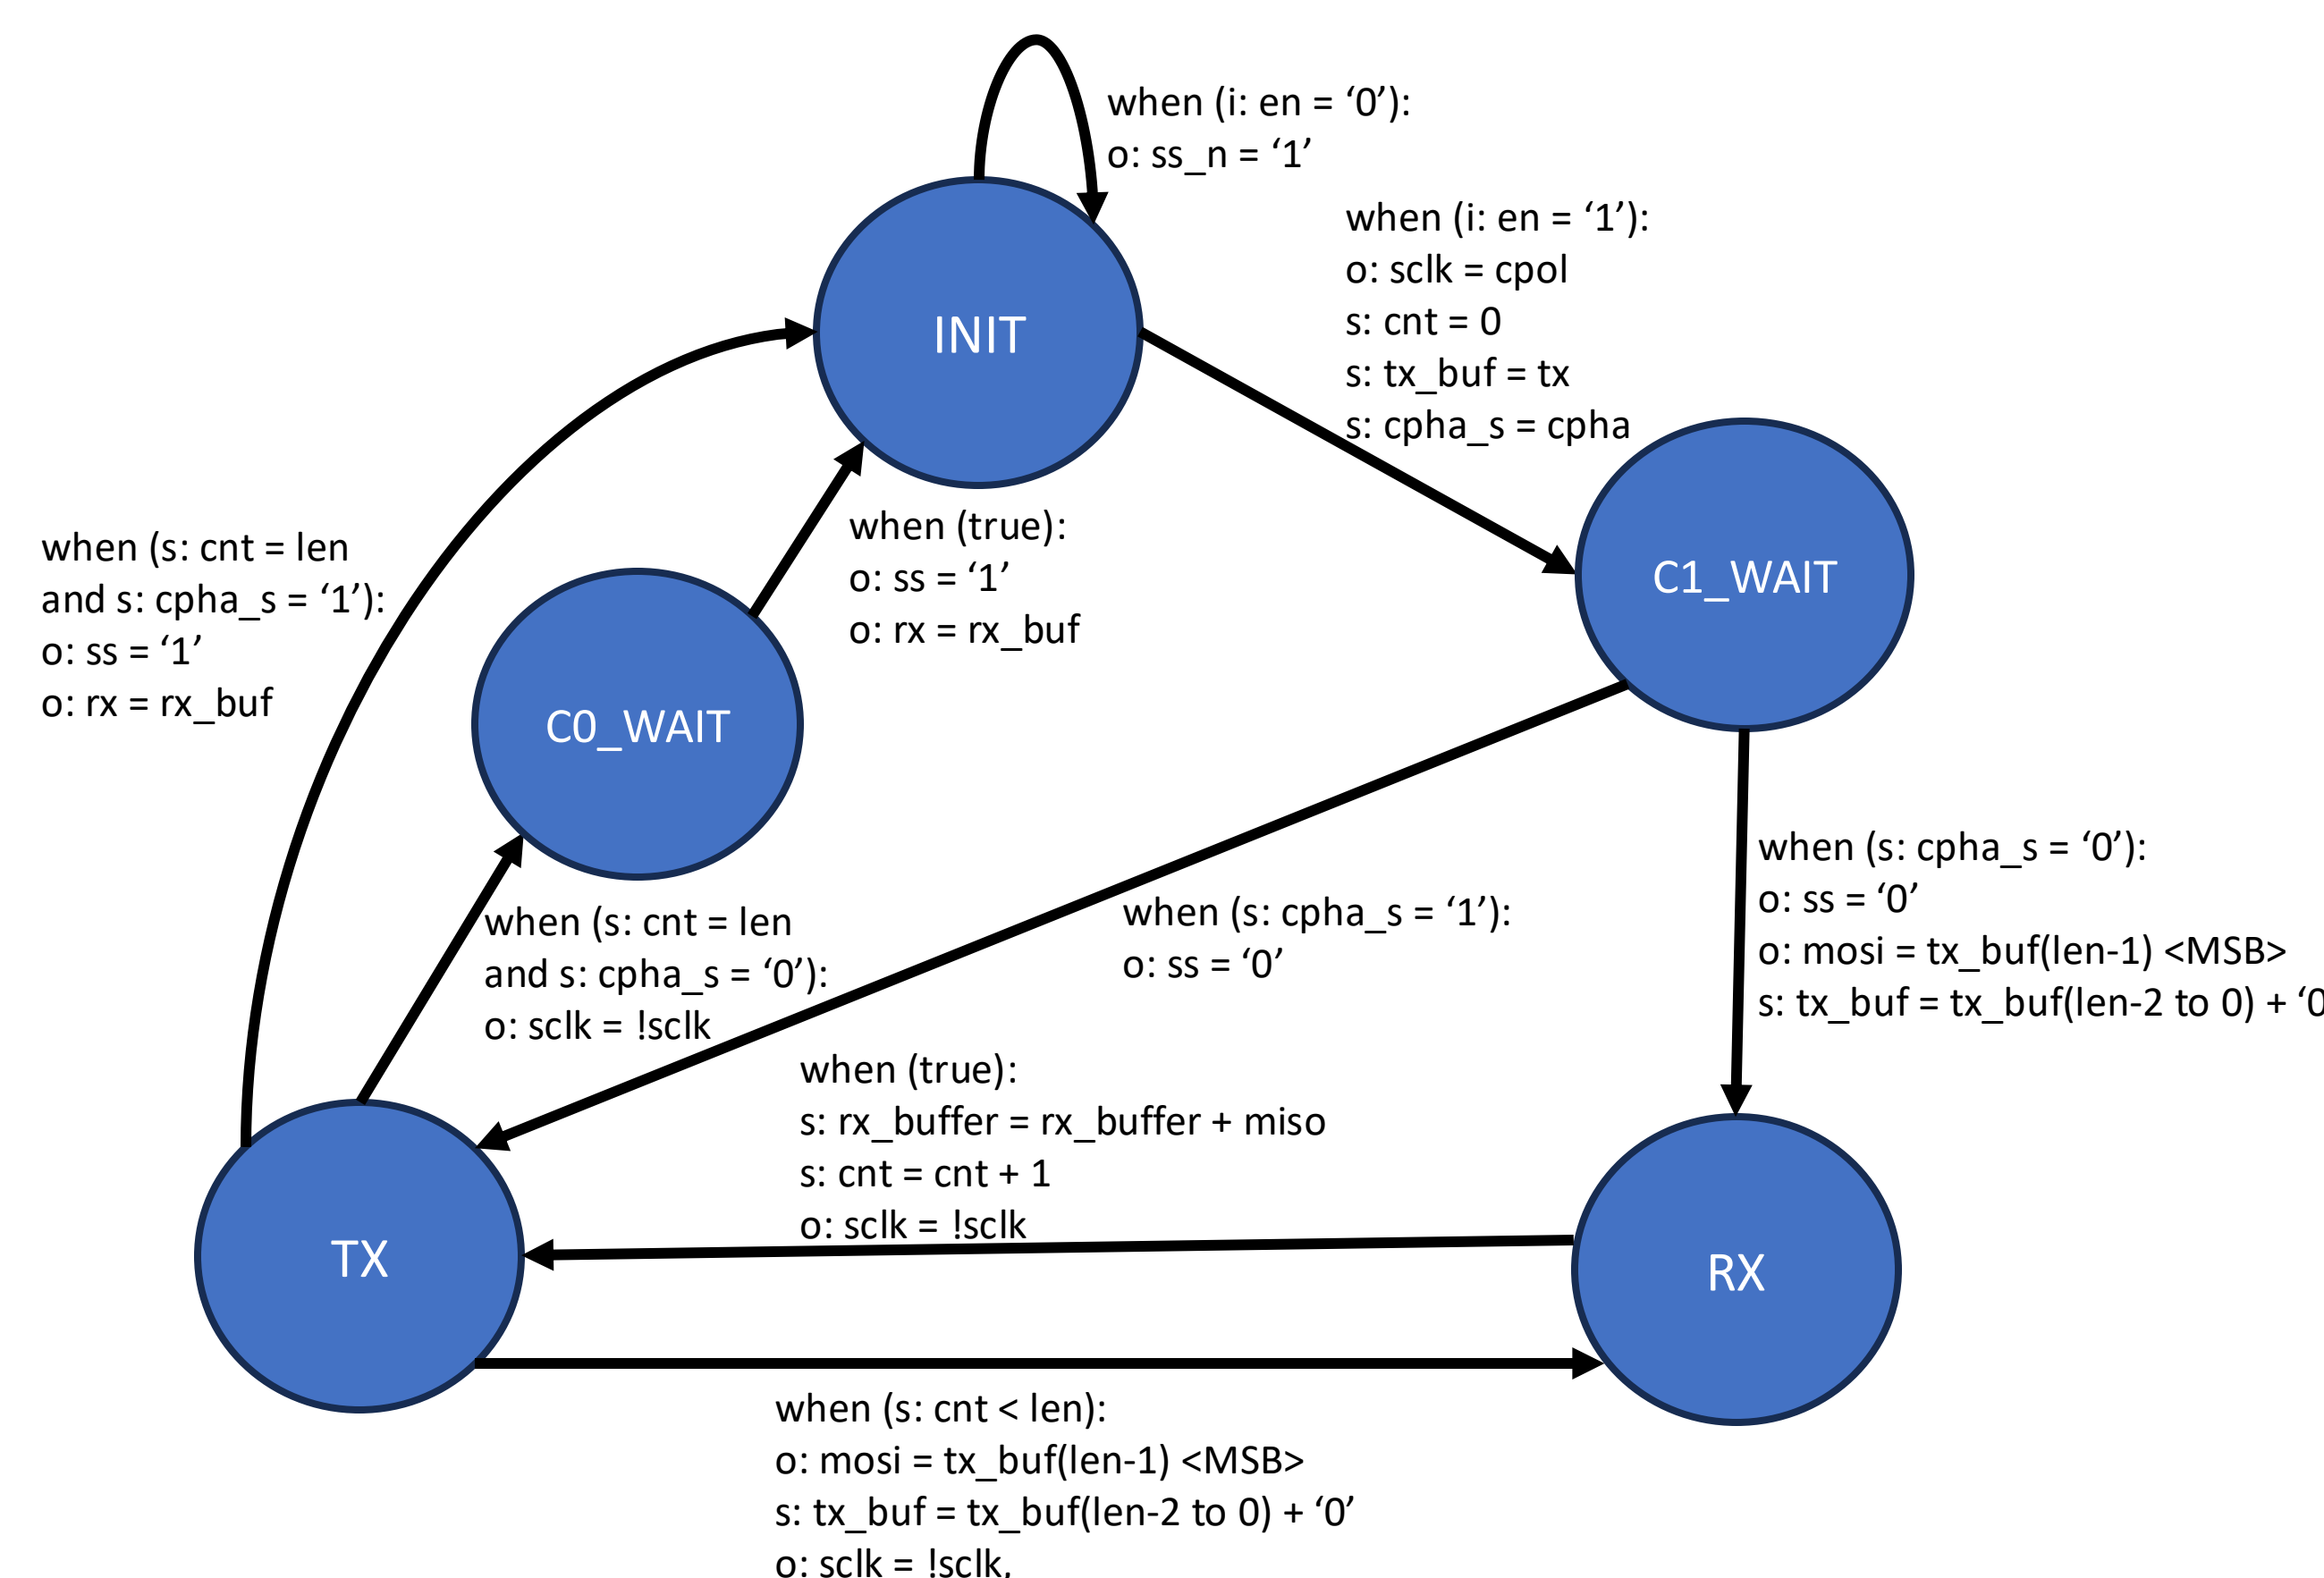

Figure 1. State machine for SPI Master with transition conditions and output. Variables are identified by (i)input, (o)output, and internal (s)ignals.
- Design a Mealy machine for the circuit based on intended behavior (see Fig 1).